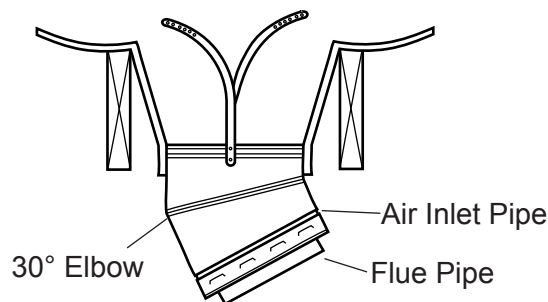

Figure 21 - Elbow Supports
2. Do not use elbows in any combination that inclines the chimney more than 30° from vertical. See *Figure 21*.